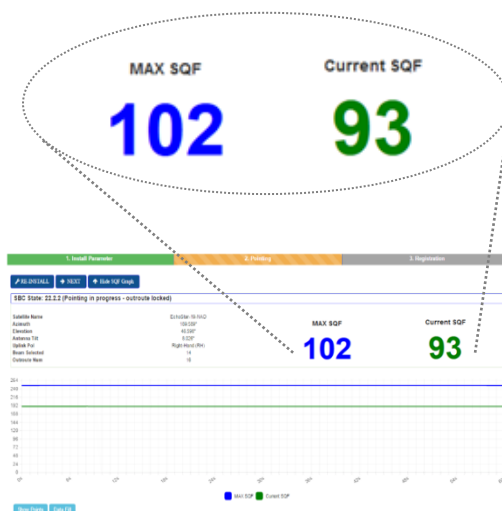

Figure 19
Step 32: Visualize the SQF (Signal Quality Factor) on the modem page (fig. 19). The green number on the right is the current value, the blue number on the left is the max value achieved during your past measurements